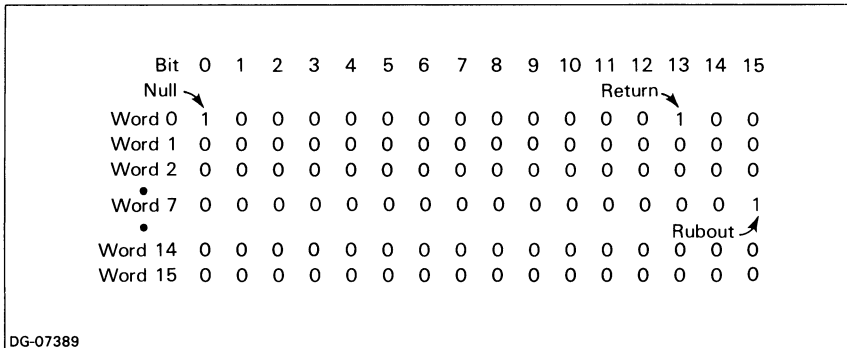

Figure 10.8 Sample delimiter table
Setting any bit in this table to 1 indicates that the character represented by this bit will be a delimiter in data-sensitive records transmitted over that channel. Figure 10.8 shows a delimiter table with bits set to make null (000), Carriage Return (15_g), and Rubout (177_g) data-sensitive record delimiters.